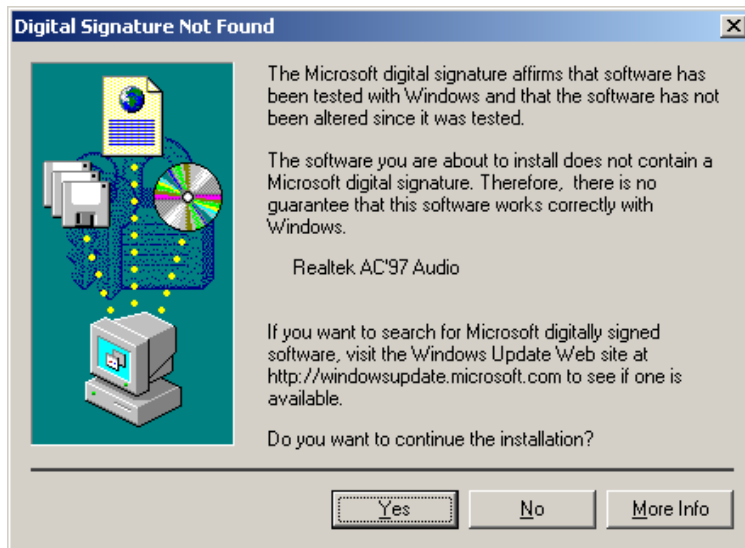

Figure 7-44: Audio Driver Digital Signal
Step 12: At this stage the **Digital Signal Not Found** screen shown in **Figure 7-44** appears.